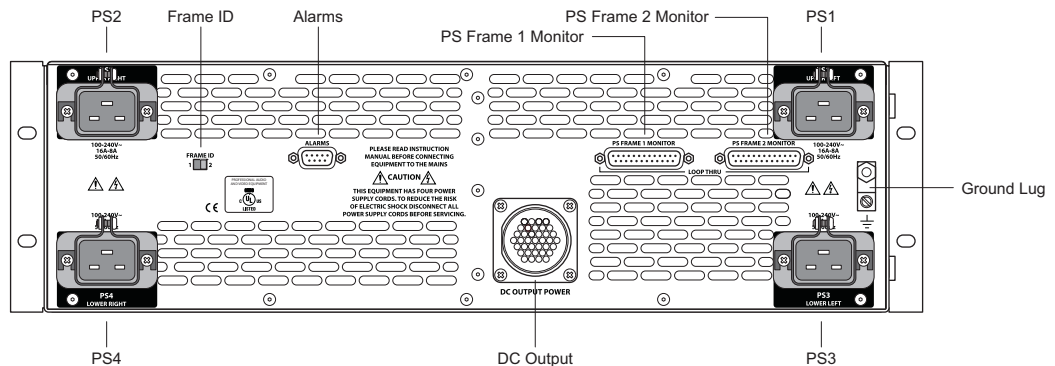

Fig. 8-12: NV8300 Power Supply Frame (Rear View)
- 2 Facing the rear of the NV8300, connect one end of a WC0154-00 power cable to the **DC Output** connector. (See Figure 8-12 on page 122.)
- 6 Set the Frame ID switch on the NV8300 power supply frame to 1. See Figure 8-12.
- 8 Facing the rear of the NV8300, connect one end of a WC0154-00 power cable to the **DC Output** connector. (See Figure 8-12 on page 122.)
- 13 Set the Frame ID switch on the NV8300 power supply frame to 2. See Figure 8-12.